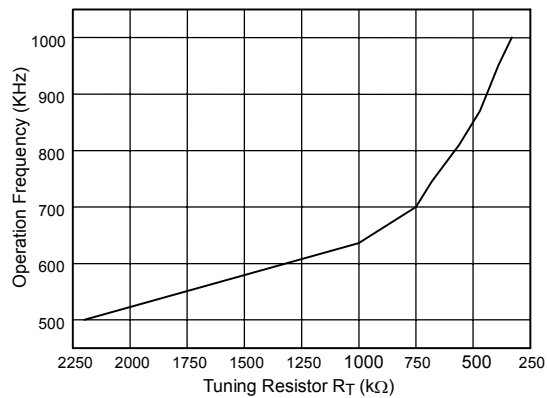

Fig. 15 Operation Frequency vs. Tuning Resistor
- PIN 5: RT-** Frequency Adjustable Pin connecting to GND through a resistor to increase frequency. (Refer to Fig. 15)